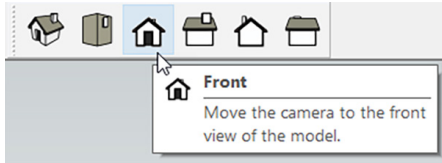

Figure 4-69: The front view icon on the Views toolbar.
Let's model the clock shown in Figure 4-68. In the process we'll do a radial array, which is multiple copies arranged in a circle. Access the **Views** toolbar (Figure 4-69), at **View>Toolbars** (PC) and **View>Tool Palettes** (Mac) and then click the front view icon.